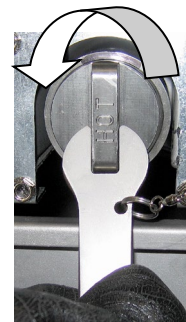

Figure 2
1. **Wearing protective gloves** use the supplied wrench to remove the cap from the pre-filter (Figure 2).